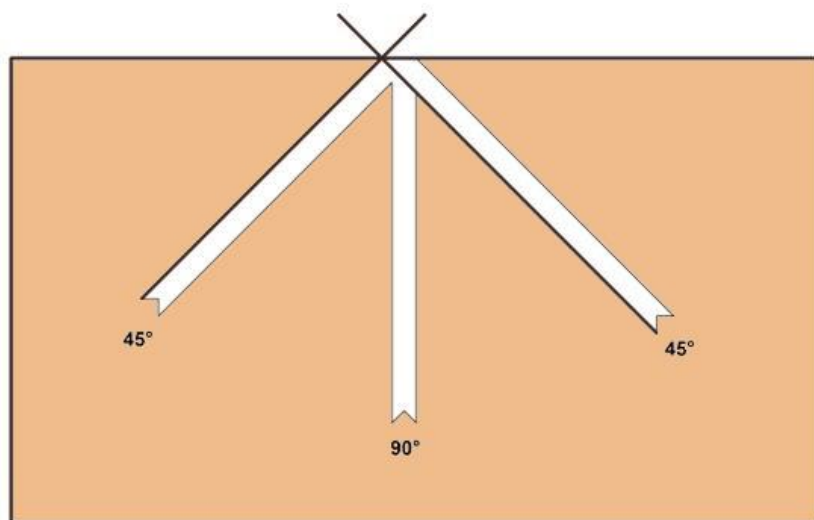

Figure 31, Example of a correct fence alignment test cut
7. Check the alignment of the cuts. The points of intersection should all be at the same point at the rear face of the timber, as shown in Figure 31.